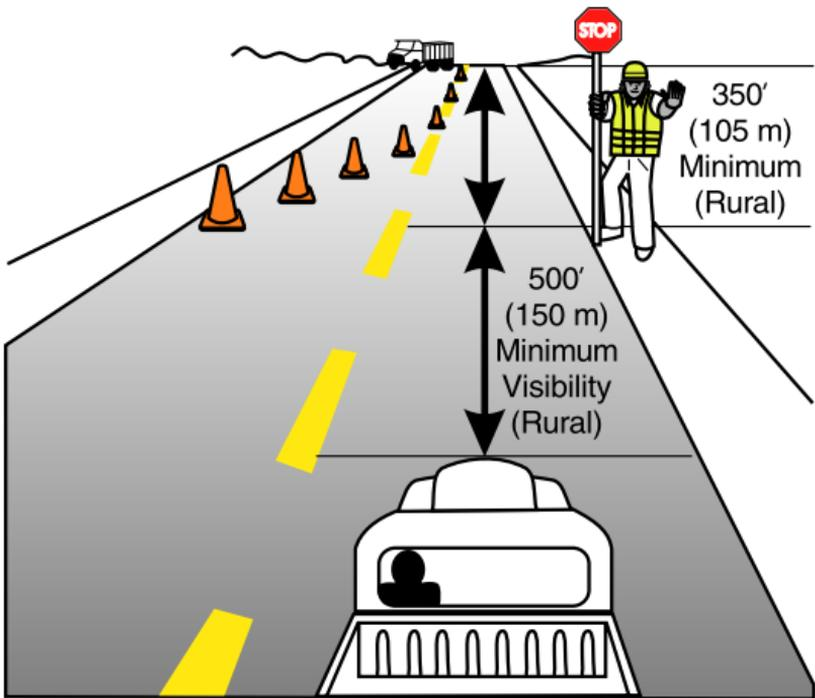

Figure 2
- where the flagger is visible to approaching traffic for at least 500 feet (150 m) away (see Figure 2).